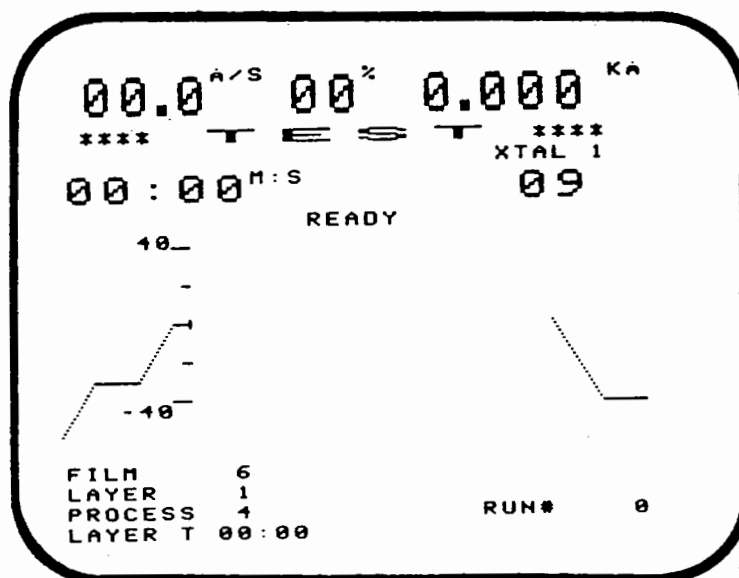

Fig. 2-9 Data Display before Test Run
6. Go to the Data display (#8). Check that the film number entered is 6; if it is not, enter 6. (Press FLM# 6.) The display should appear as in Fig. 2-9. (Note that the crystal life number will be random in a test program.)